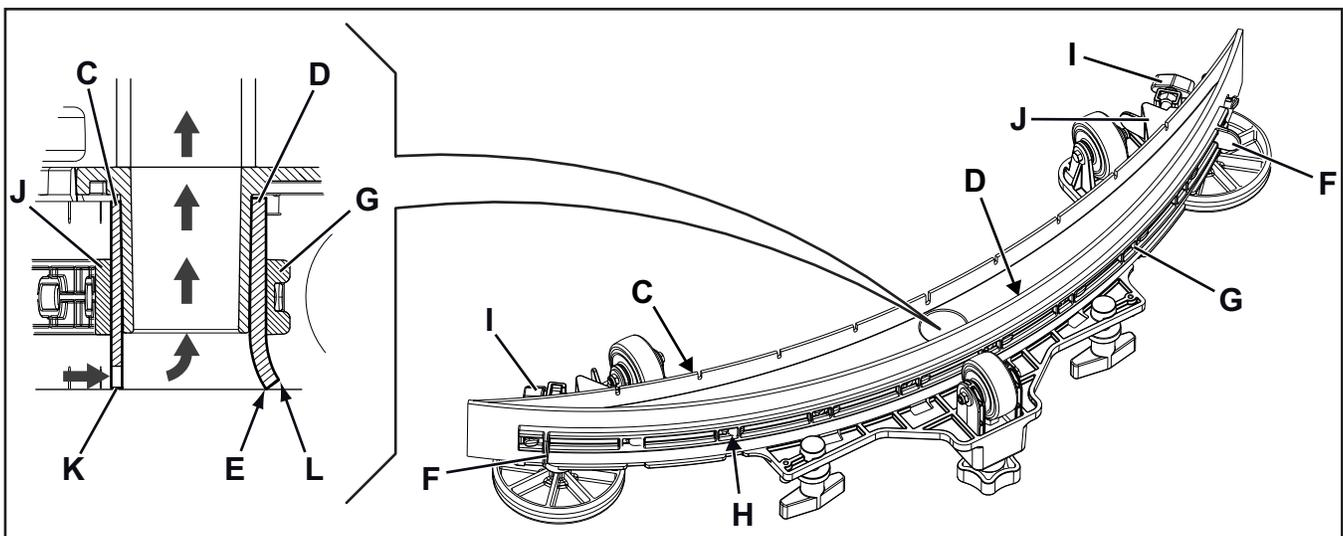

Figure 3
7. Check the condition of the front (C) (Figure 3) and rear (D) blades, ensuring there are no cuts and tears; if necessary, replace them as shown below. Check that the front corner (E) of the rear blade is not worn; otherwise, turn the blade to replace the worn corner with one of the three remaining intact corners. If the other corners are worn too, replace the blade according to the following procedure:
- Using the tab (F), release and remove the elastic strap (G) from the fasteners (H), then turn or replace the rear blade (D).
- Unscrew the handwheels (I) and remove the strap (J), then turn or replace the front blade (C).
- Check that the lip (K) of the front blade (C) and the lip (L) of the rear blade (D) are resting as shown in the figure.